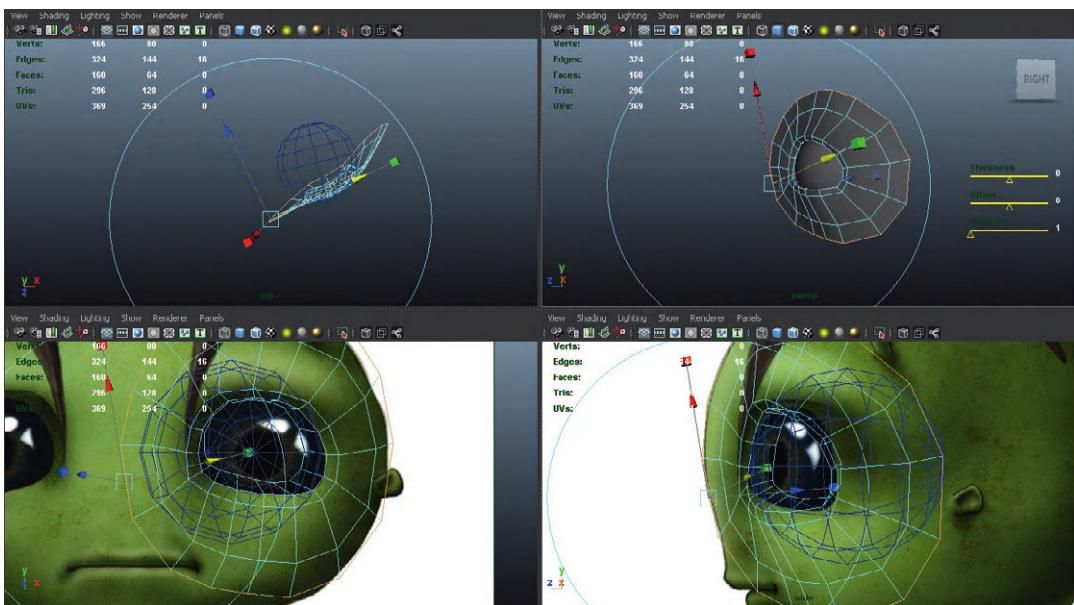

FIG. 4.18 Creating a new extrusion.
Step 32: Extrude out another ring of faces. Again, do this by swapping to Edge Mode and double-clicking one of the outside edges to select the outer ring of edges. Use Polygons|Edit Mesh > Extrude and pull out the new ring of edges (Fig. 4.18).